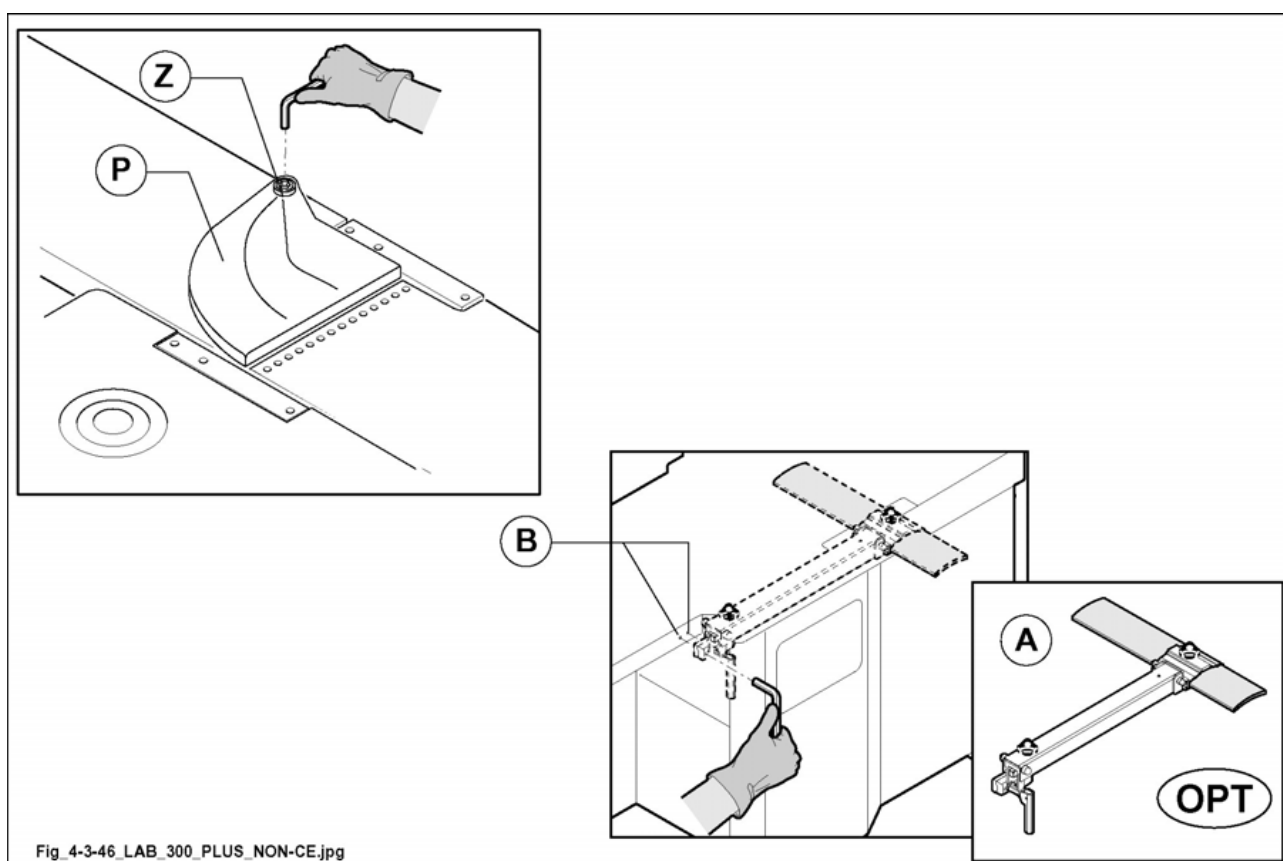

Fig. 4.3-46
- 1) fit the protection (P fig. 4.3-46) into place as shown in the picture.
- 2) Screw the retaining screw (Z fig. 4.3-46).
For transport reasons bridge (A fig. 4.3-46) is demounted.
- 1) fit the protection (A fig. 4.3-46) into place as shown in the picture.
- 2) Screw the 2 retaining screws through the holes (B fig. 4.3-46).